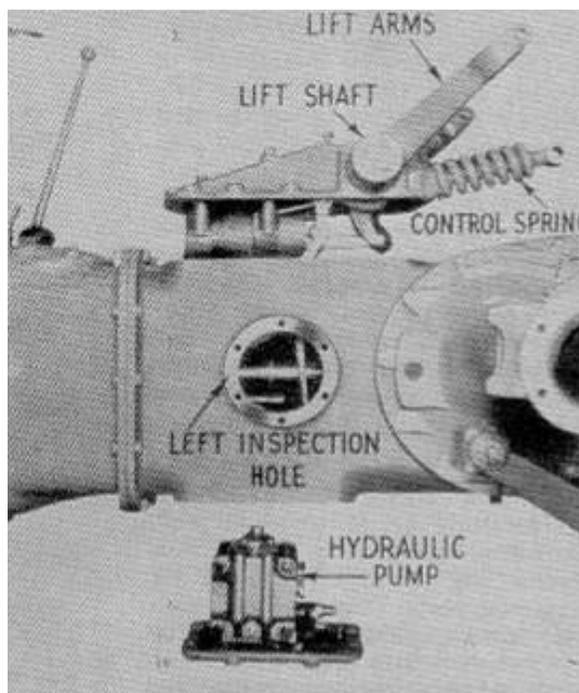
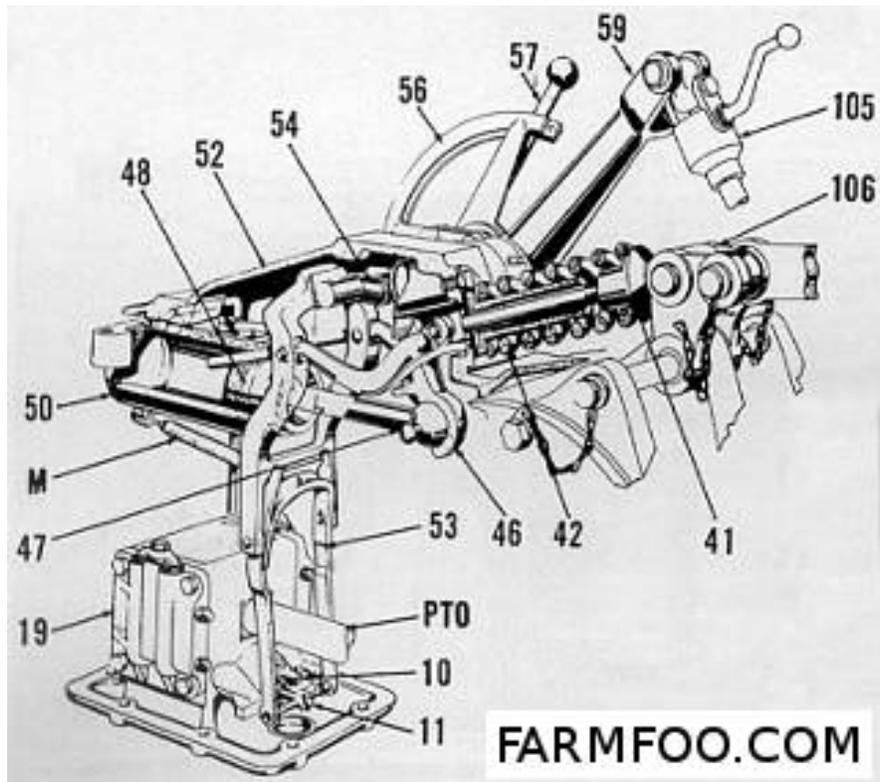

Fig. F083 - Left cover assembly and hydraulic pump being installed to rear axle center housing.
Fig. F084 - Phantom view of hydraulic system lift cover and pump as used on models 2N and 9N.
Although all of the Ford models utilize main assemblies of basically similar appearance, they hydraulic system as used on the 2N and 9N performs differently and has different adjustments than the system used on the 8N. Main differences are in the valving which in the 2N and 9N provides automatic draft control whereas on the 8N the system has automatic draft control and automatic implement position (also called "automatic follow up") control. Each system is easily identified by the appearance of the lift cover assembly which if it is for an 8N tractor has a position control lever (62-Fig. F078) and a touch control lever (57), whereas for the 2N and 9N the cover has only the touch control lever as shown at (57) in Fig. F084.
105. R&R COVER FROM TRACTOR. To remove lift cover unit from tractor, first remove the tractor seat and the inspection plate from left side of axle center housing as shown in Fig. F083. Working through the inspection cover opening spread the hand lift control fork (53-Fig. F084) until lower ends of same are released from the pump control valve (11).